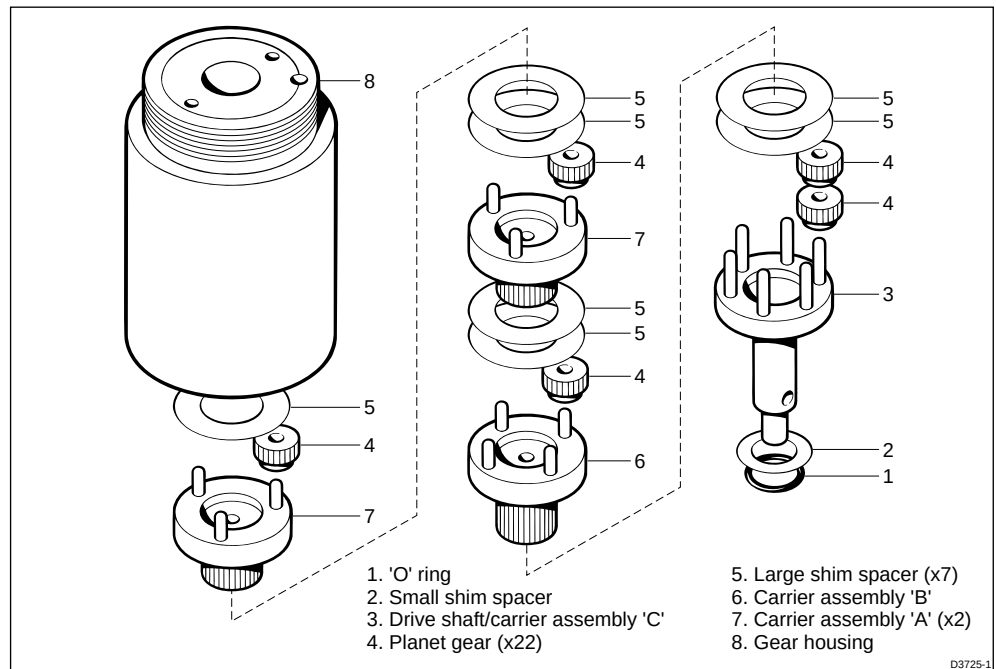

Figure 8. Gearbox exploded view
| 21   | Gearbox drive shaft/gear carrier 'C'                       |          | See Figure 8, item 3                                     |
| —    | Planet gear (x12)                                          |          | See Figure 8, item 4                                     |
| —    | Shim                                                       |          | See Figure 8, item 2                                     |
| —    | 'O' ring                                                   |          | See Figure 8, item 1                                     |
1. Rebuild gearbox. Refer to Figure 8. Gearbox exploded view
2. Fix the gearbox (23) to the back mounting plate assembly (2) using the four gearbox retaining screws (22).
3. Slide the two shims (20) over the gearbox drive shaft/gear carrier 'C' (21) and hard up against the back mounting plate assembly (2).
4. Support the gearbox drive shaft/gear carrier 'C' (21) and refit the pin (19).
**Note:** If the original pin (19) is bent or damaged a replacement pin can be obtained from pinion kit, part no. N014.